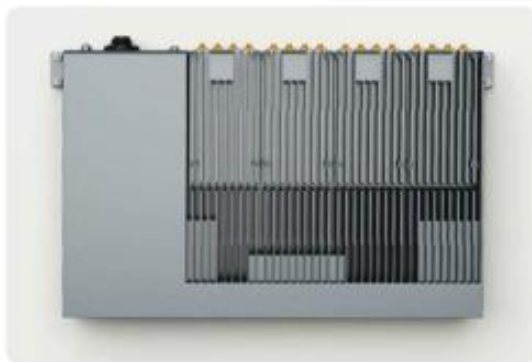

Figure 11. Mounting completed
3. Attach the dowels, expansion screws or the like and fasten the A2 to the wall (Figure 11).